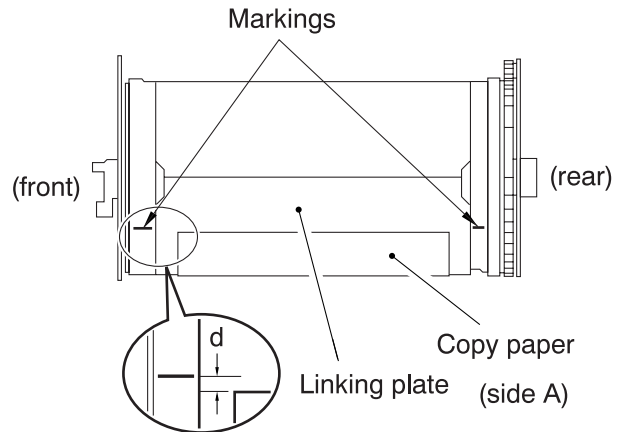

Figure 13-207
- 6) Place a ruler and copy paper against the marking (Figure 13-207) etched to the transfer drum ring (front, rear), and measure the position *d* of the copy paper in relation to the leading edge of the copy paper. Perform this for both sides A and B.